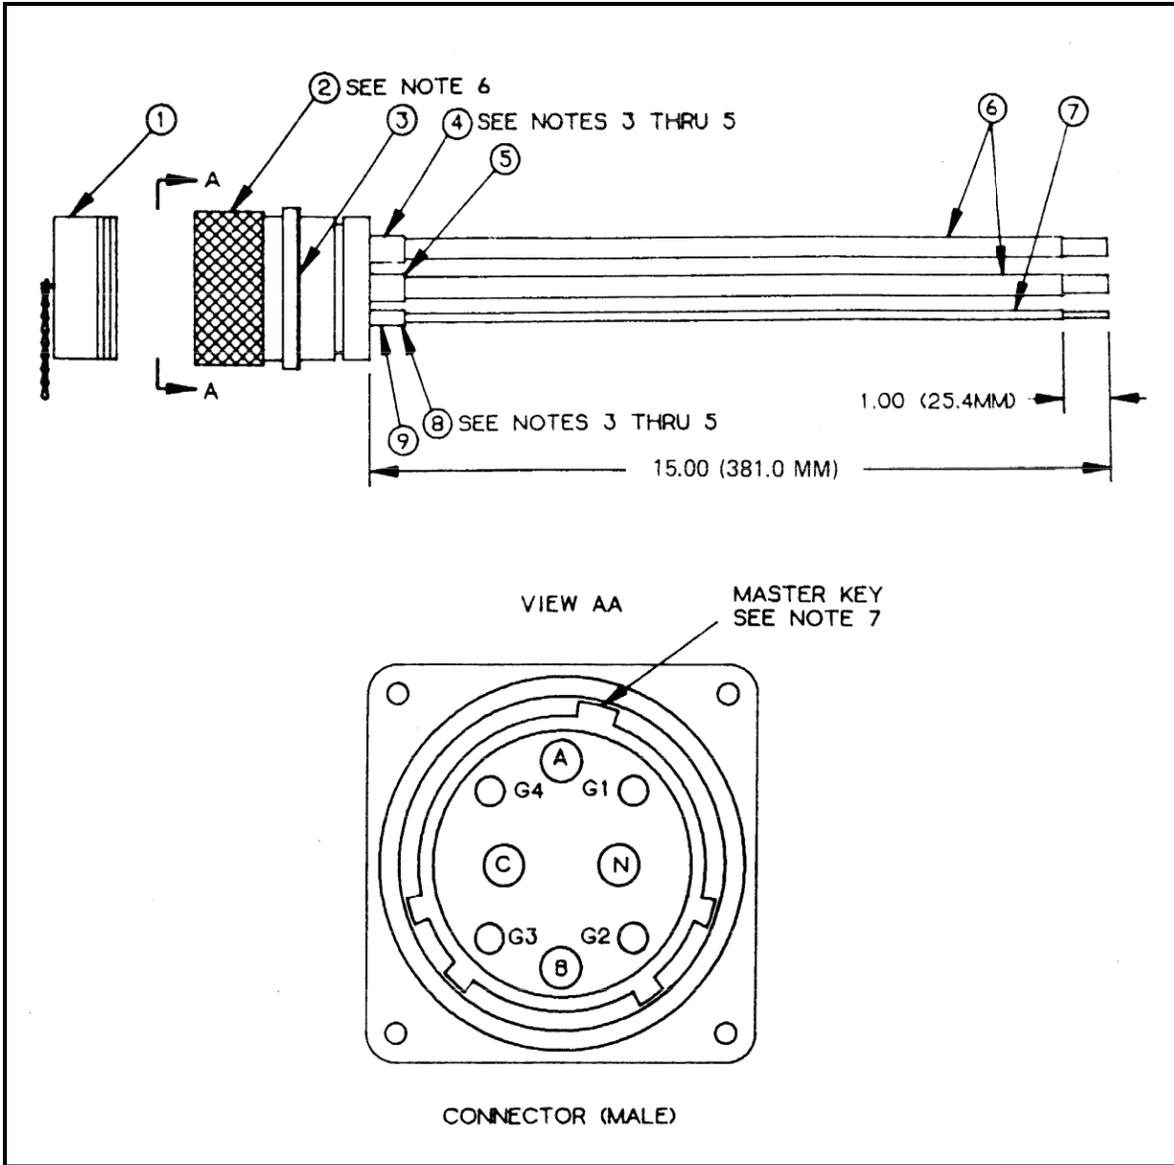

Figure F-27. M100 A/P (PDISE), 100-Amp, Input Connector, (P1)
Component Legend for Figure F-27
c. Electrical connector (Figure F-27, Item 2) is furnished with the following: